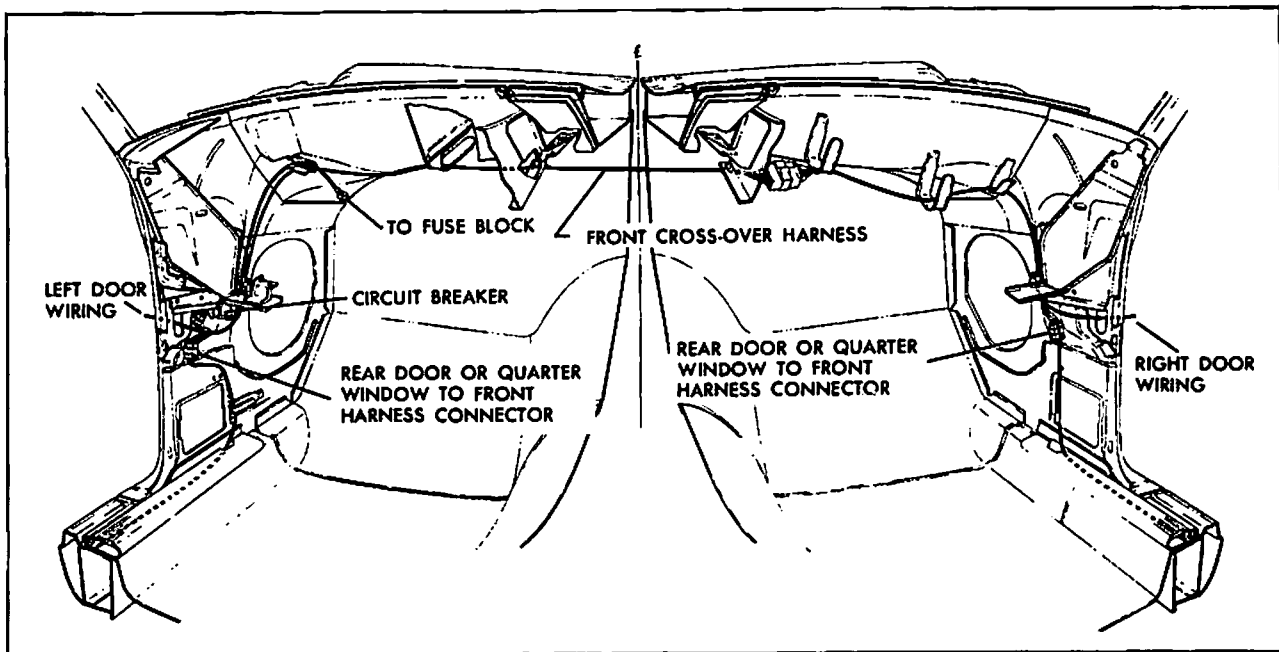

Figure 2-1
On late model cars (1959-65) a three part wiring harness is incorporated. This consists of (1) A front cross over harness and (2 & 3) a rear door and rear quarter window harness. See (Figure 2-1) which is a typical wiring diagram, for power window application 1959-65. Note: For earlier models, refer to Car Division Shop Manuals.
As shown in Figure 2-1, the front cross over harness is installed under the instrument panel and completes the circuit from the right door to the left door windows. The front harness also includes the wiring for the cowl vent motors when car is so equipped.